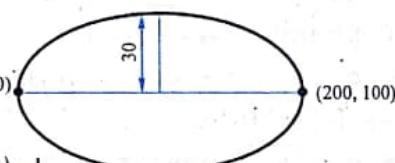

FIG 14.14
**Example :** Draw an ellipse passing through two points having co ordinate (100, 100) and (200, 100) as one axis and distance of other axis 30 mm on either sides Refer figure 14.14.